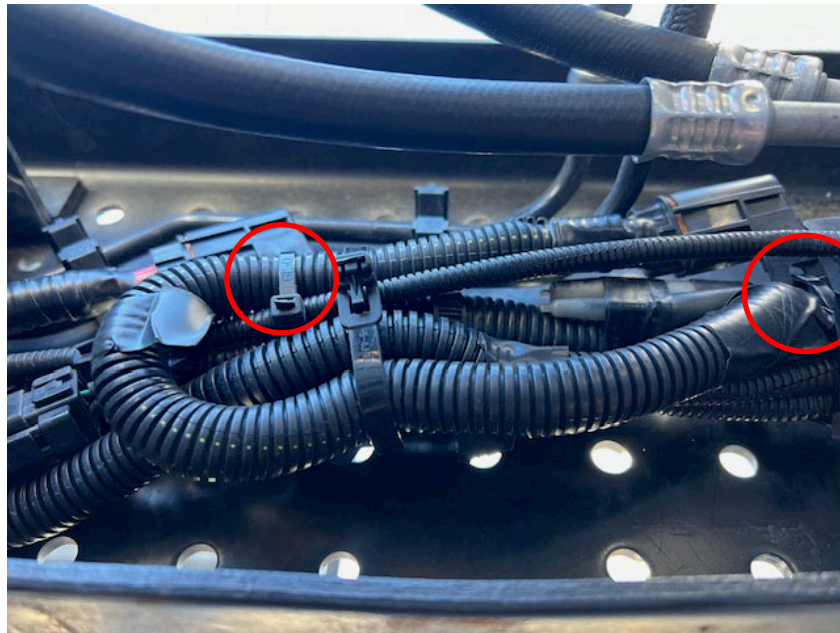

Figure 13
15. **For NPR/NPRHD ONLY** - Loop each replacement fuse harness towards the front of the vehicle. Use a wire tie to secure **each** fuse holder to the vehicle's wiring harness at the approximate position where **each** fuse was originally located. (See Figure 13.) (**For NQR/NRR skip to Step 17.**)